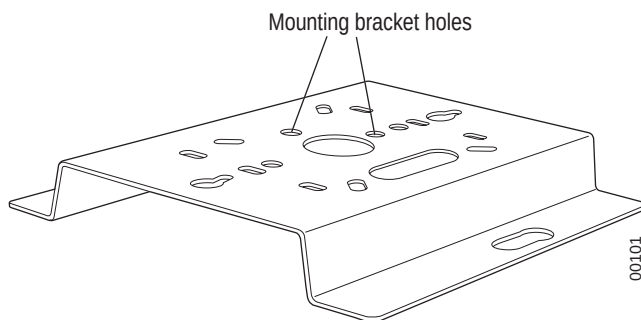

Figure 24: Box Hanger Mounting Bracket Holes
3. Locate the bracket mounting clip holes on the mounting bracket (see Figure 24). One hole attaches the bracket perpendicular to the box hanger. The other mounts the bracket parallel to the box hanger.